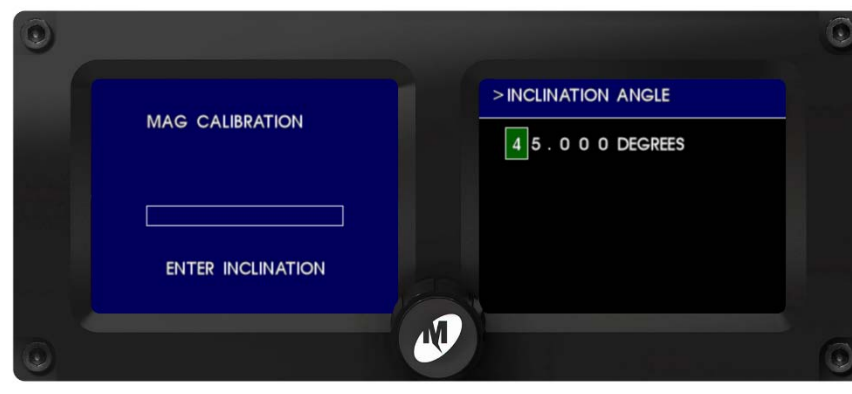

Figure 4.53
- a. The MD302 will request the inclination angle (in degrees) at your current location. (Figure 4.53) This can be measured using appropriate equipment, or can be found by entering your location at the following website: